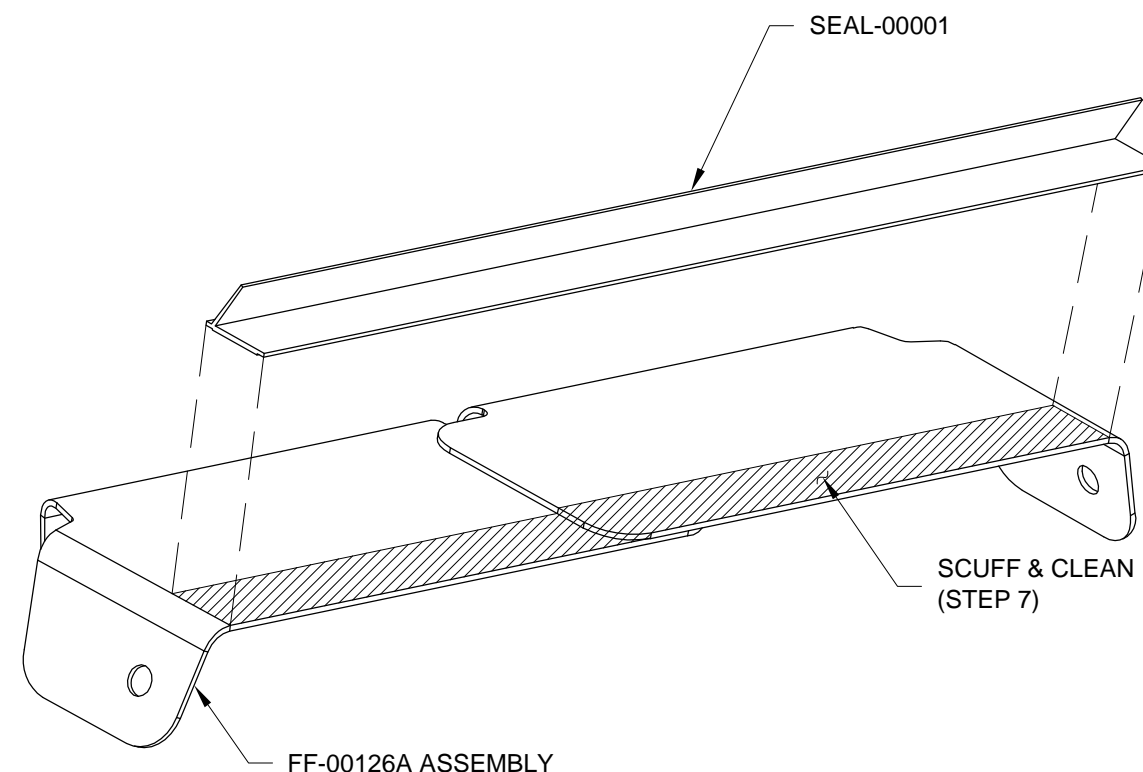

FIGURE 2: INSTALLING THE SEAL
Step 7: Scuff with Scotchbrite, then clean with denatured alcohol, an area on the FF-00126A Assembly as shown in Figure 2. Attach a 6 in. [15.2 cm] long piece of SEAL-00001 as shown in Figure 2 to create the FF-00126A Oil Cooler Cover.